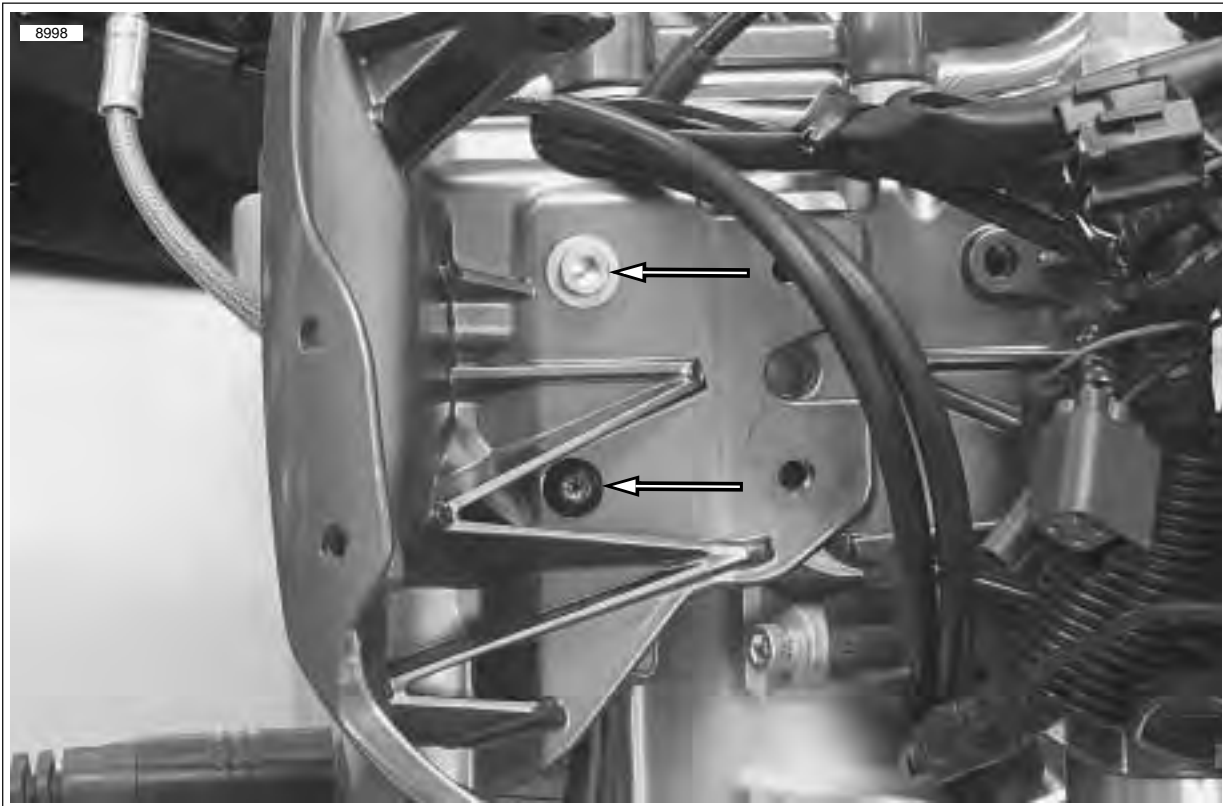

Figure 2-110. Right Front Module Fastener and Brake Line P-Clamp Fastener (Typical)
See Figure 2-110. Once the ignition switch has been removed there will be two remaining fasteners.
7. See Figure 2-110. Remove fastener attaching p-clamp to rear side of right front module.
8. See Figure 2-110. Loosen but do not remove final fastener securing the right front module to upper triple clamp.
10. See Figure 2-110. Remove the final fastener and the right front module.
1. See Figure 2-110. Install right front module leaving single fastener loose.